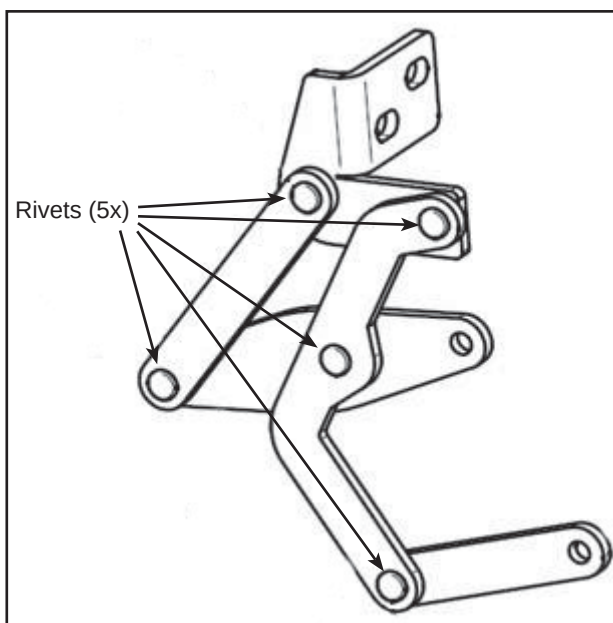

Figure 1 - Rear Engine Access Door Scissor Hinge
- 1.2. Check for missing or loose rivets on both engine door scissor hinges. See Figure 1. Otherwise, go to step 1.12.
- 1.4. Remove the five rivets from the hinge using a grinder or a press drill with a 1/4 in. drill bit. See Figure 1.